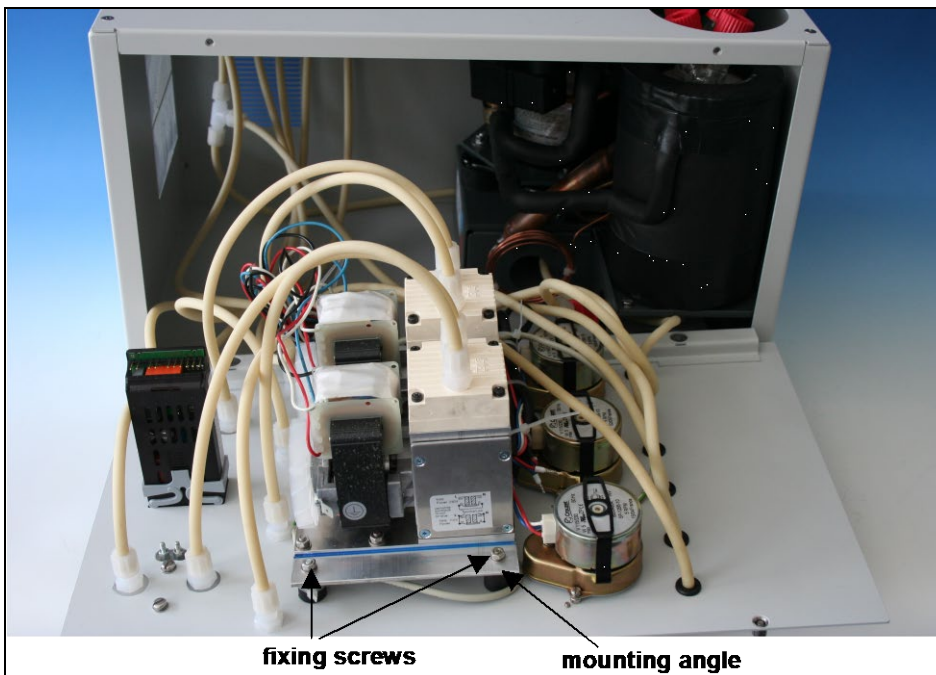

Figure 8 Dismounting the sample gas pump
3. Loosen the 4 fastening screws of the mounting angle on which the pump is mounted (Figure 8).